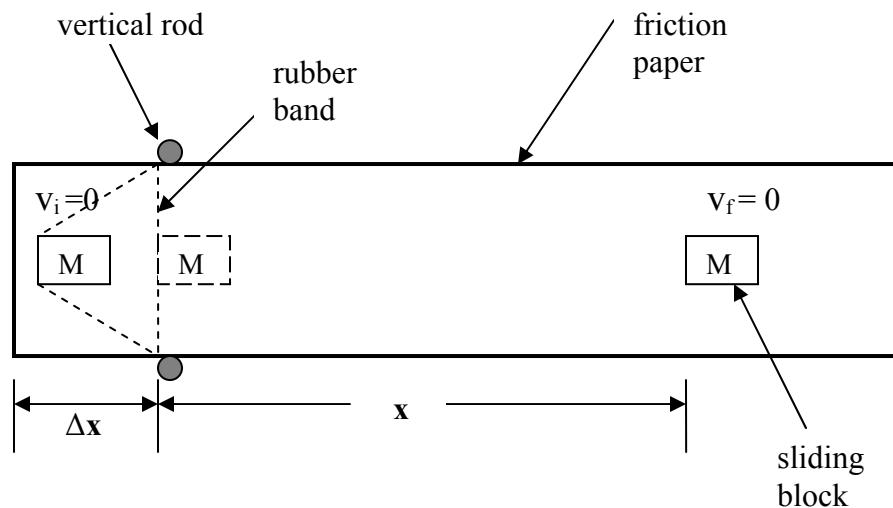

Figure 1
(Using Hooke's Law to Find the Expected Value of the Effective Spring Constant K_{eff} – see Figure 1)
1. Setup apparatus as shown in Figure 1.